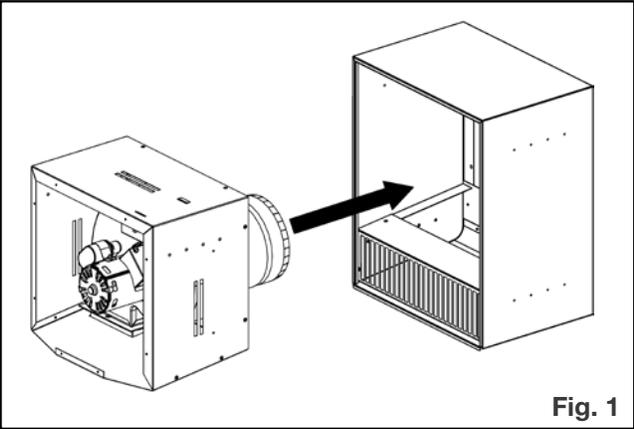

Fig. 1
1. Insert the blower housing assembly into the exterior housing assembly. Ensure correct orientation (**Fig. 1**).